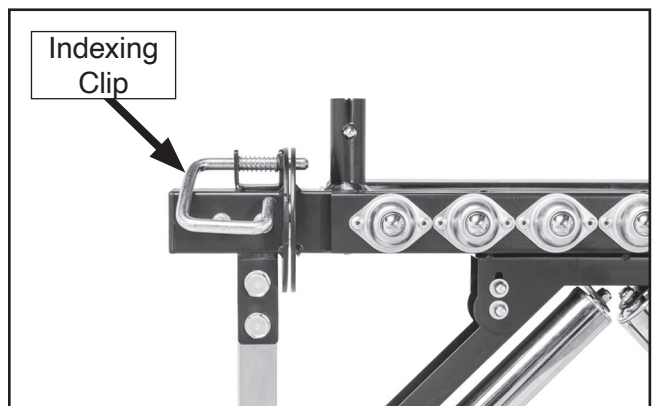

Figure 15. Location of indexing clip.
2. Pull indexing clip outward and rotate multi-function head to desired position, then release indexing clip to lock in place (see **Figure 15**).